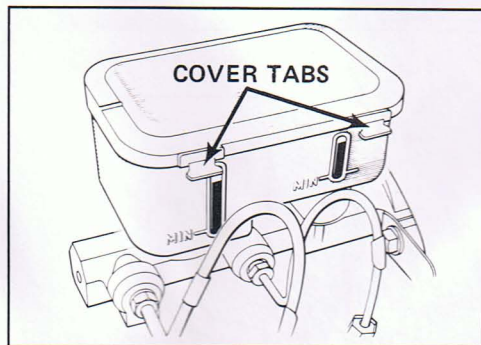

Figure 2 - Brake fluid reservoir
1. Observe the brake fluid levels through the plastic wall of the reservoir. The levels in both the front and rear chambers of the reservoir must be above the "MIN" lines. See Figure 2.
2. If it is necessary to add fluid, clean the cover and area around it to prevent foreign matter from entering the reservoir when the cover is removed. Grasp the tabs on the sides of the cover and lift it off the reservoir. See Figure 2.